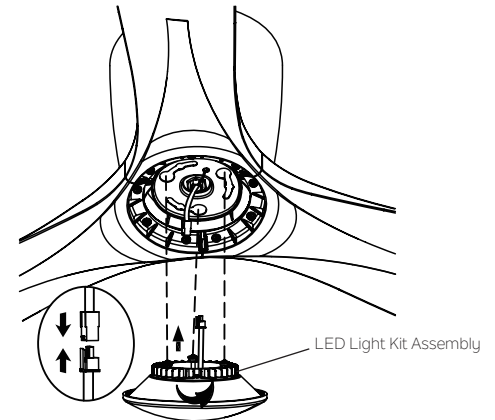

Fig. 14
**Step 1:** Hold the LED light kit assembly close the motor and connect the pin connectors together. (Fig. 14)
**Step 2:** Tuck the connections neatly into LED light kit assembly, raise the LED light kit assembly up to the motor and twist screws to the narrow end of the slotted holes on the motor. Make sure all screws lock in place and no longer turns. (Fig. 14)